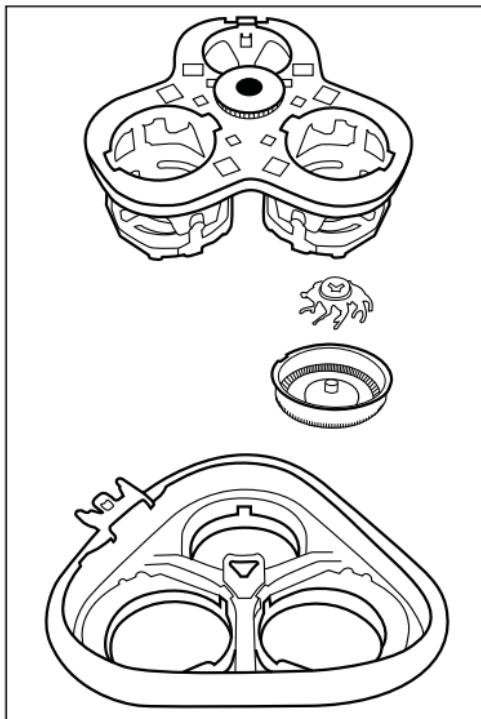

Figure 1
- 1) Press the release button ④. The cutting unit ② pops up.
- 2) Overstretch the cutting unit ② a little so it can be pulled upwards and off.
- 3) Press the black gear wheel down slightly and turn it carefully anticlockwise until the shaving head holder can be lifted out (see Figure 1).
- 5) Replace the cutting unit **②**. Refer to figure 1 for assistance:
- Insert the 3 shaving heads in the recesses of the cutting unit **②**. Ensure that the notches on the edge of the shaving heads rest on the catches in the opening.